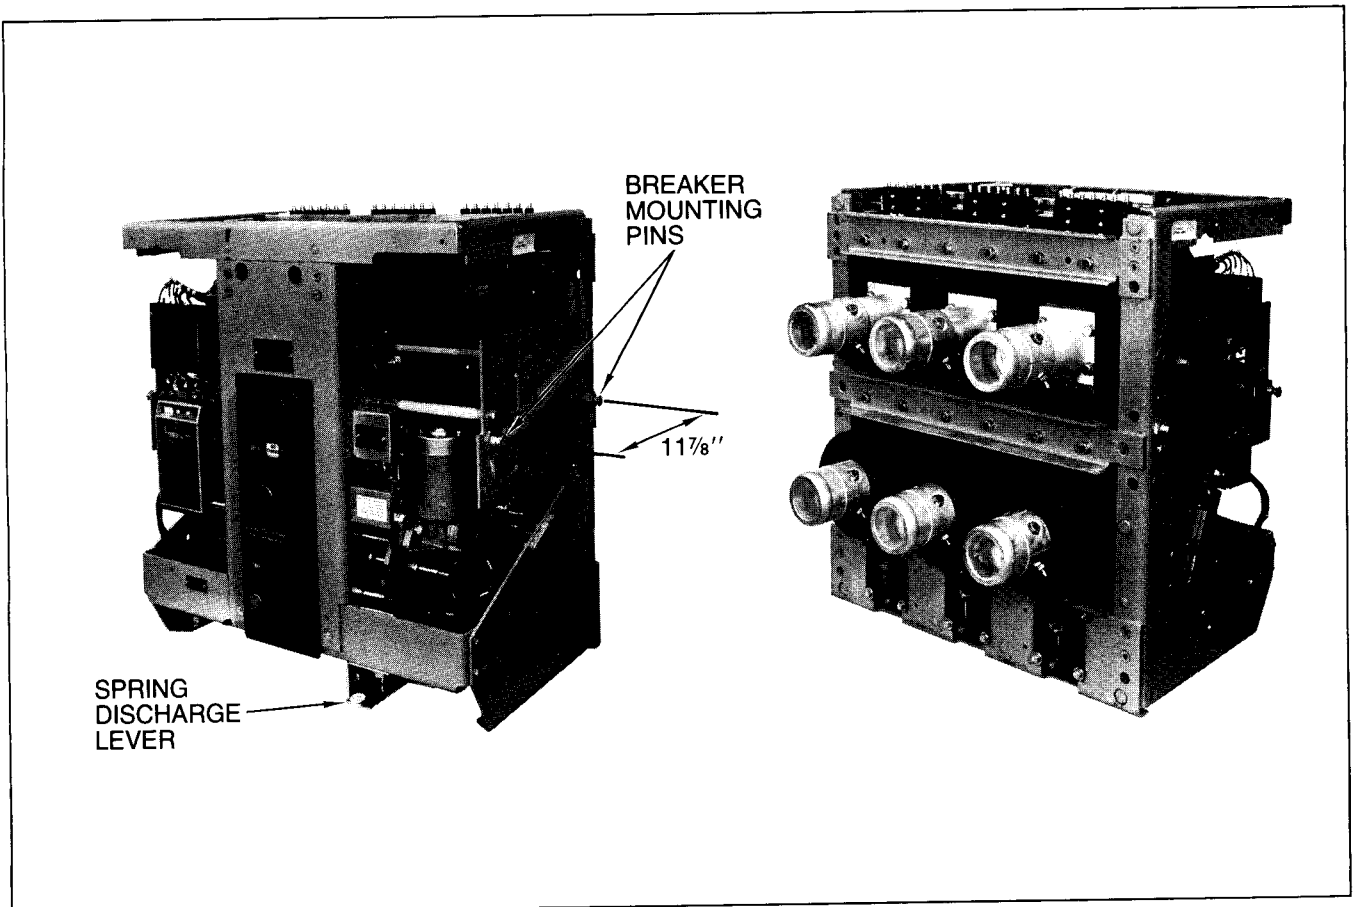

Fig. 2 AKR-5A-75 electrically operated (AKD-5, 6 type)
**NOTE:** All electrically operated AKR-75/100 breakers employ a spring discharge interlock which prevents removal of the breaker with its closing springs in the charged state. Before the breaker can be moved away from the DISCONNECTED position toward the WITHDRAWN position, it is necessary to depress and hold the breaker-mounted spring discharge lever (Fig. 2). This discharges the closing springs and releases the breaker.
These breakers employ the same drawout arrangement as the Code A models described in Section 5.3. Their drawout operation and breaker insertion/removal procedures are identical, but they differ significantly in other aspects. As indicated in Table 1, the AKR-( )C-75 is a 3200A Ac frame size compared to the 3000A A model. The AKR-( )C-100 is narrower than AKR-( )A-100 (25 versus 33 inches). All C models employ finger-type primary disconnects instead of the tubular studs of the A types per fig. 2.